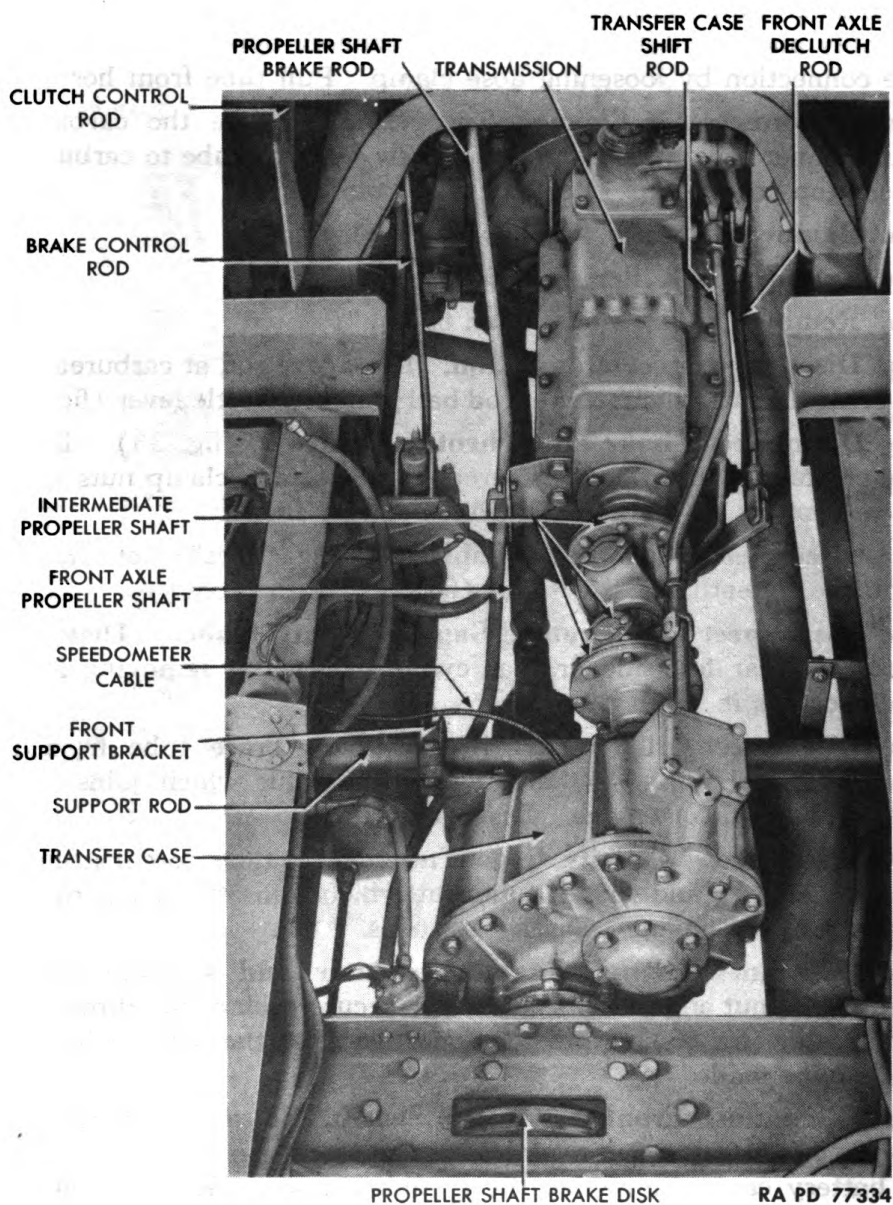

Figure 25 — Control Rods Installed
aa. Disconnect Transfer Case Shift Rod (fig. 25). Remove cotter pin and clevis pin at both ends. Remove rod.
bb. Disconnect Front Axle Declutch Rod (fig. 25). Remove cotter key and clevis pin at bell crank. Drop rod down.
cc. Disconnect Clutch and Brake Rods (fig. 25). Remove cotter pins and clevis pins at both ends of propeller shaft brake rod, brake control rod, and clutch control rod. Remove rods.
dd. Remove Intermediate Propeller Shaft (fig. 25). Remove the 16 bolts, nuts and lock washers which secure shaft to transmission and transfer case. Remove shaft.
e. **Install Intermediate Propeller Shaft** (fig. 25). Position shaft between transmission and transfer case. Secure with the eight bolts, nuts, and lock washers. *NOTE: If transmission was removed separately, it must be installed before shaft is installed. Proceed as follows: Position transmission on bell housing. Secure with the 12 cap screws and lock washers.*
f. **Install Brake and Clutch Rods** (fig. 25). Position propeller shaft brake rod between base of brake lever and propeller shaft brake disk. Secure at both ends with the clevis pin and cotter pin. Position brake control rod between pedal and foot control valve. Install clevis pin and cotter pin at each end. Position clutch control rod between pedal and throw-out shaft lever. Install clevis pin and cotter pin at each end.
g. **Connect Front Axle Declutch Rod** (fig. 25). Attach front end of rod to bell crank by securing with the clevis pin and cotter pin.
h. Install Transfer Case Shift Rod (fig. 25). Position rod between base of transfer case shift lever and transfer case. Secure at both ends with the clevis pin and cotter pin.